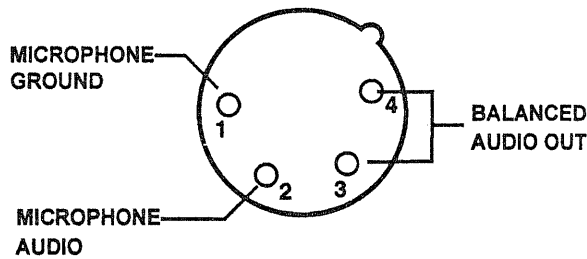

Figure 2
**Local Headset Connector:** 4 Pin XLR Connector for Input/Output. The headset jack will accept many Telex model headsets. Compatible with other intercom headsets with four pin XLR connectors that are wired as shown in Figure 2.